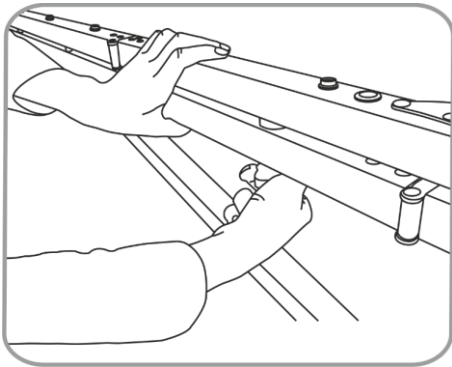
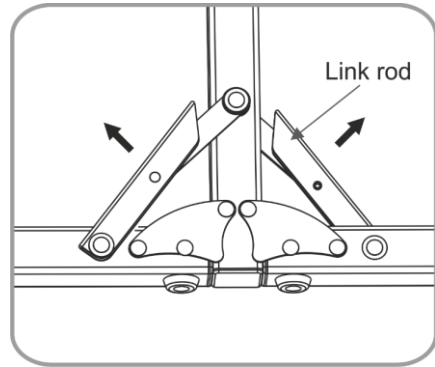

Fig. 20
Fig. 21
04) Remove the locknuts on both legs and take off the legs (Fig. 20). Pull up the leg's corner link rod and remove the screws. Retract the leg tubes and fasten the screws again. Loosen the turning joint locks and fold the frame legs (Fig. 21, 22 and 23).